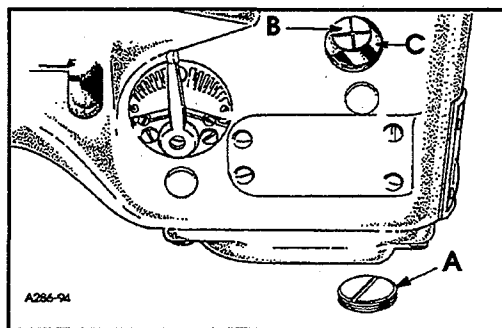

FIG. 12
When change in stitch length is required, remove large plug screw (A, Fig. 12). Loosen feed rocker driving link screw (B) in lever (C). Moving the feed rocker driving link up in the lever slot lengthens the stitch, moving it down, acts the reverse. Retighten link screw (B) securely and replace plug screw (A).